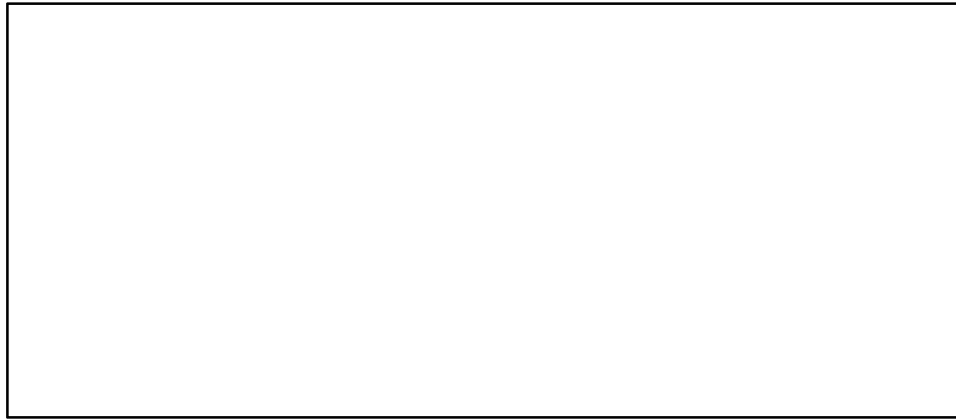

Figure 19 – Thévenin's equivalent circuit for the charge for the capacitor C5 during the T wave.
19. Use Thévenin's Theorem to calculate the equivalent voltage and resistance during the capacitor charge when the pin 1 (output 5) is in logic "1". Draw this circuit in Figure 19.